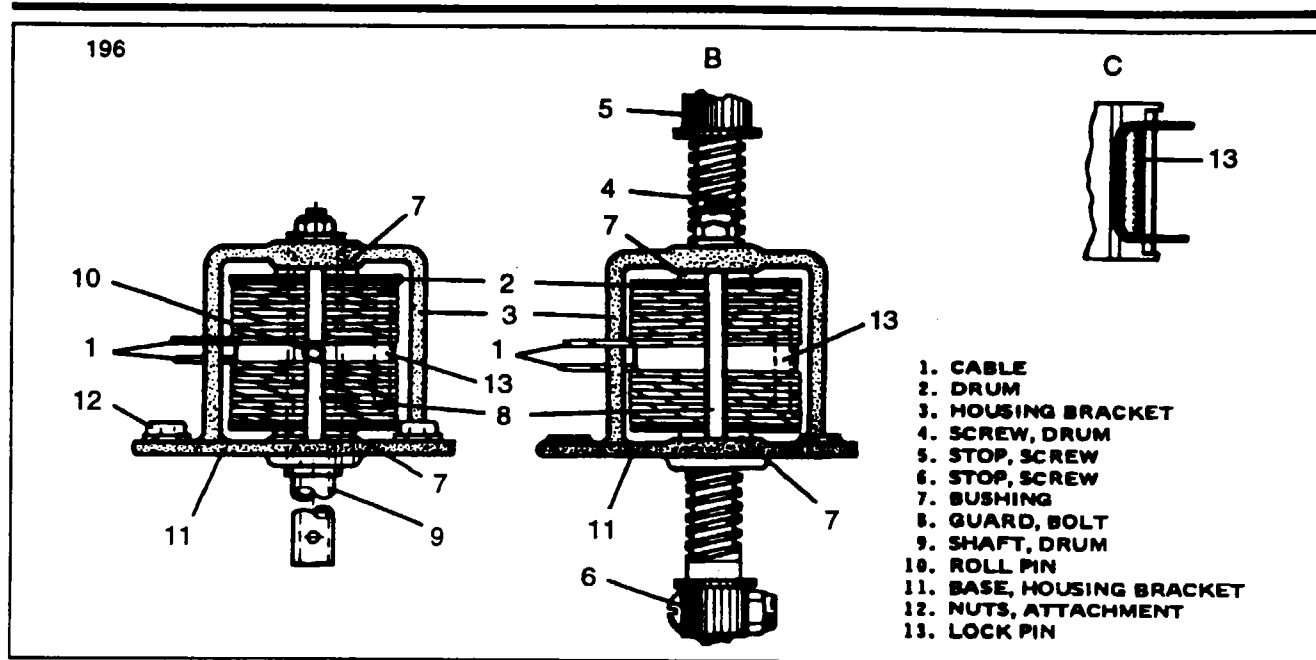

Figure 5-16. Trim Screw Assembly
5-58. WRAPPING TRIM DRUM. (Refer to Figure 5-16). All trim drums are wrapped basically in the same manner except as noted in the following procedures and must be removed from the airplane.
3. Hold the drum with its base down. Wrap the cable that leads from the base end of the drum nine and one-quarter turns in a counterclockwise direction up towards the center of the drum, Wrap the cable that leads from the upper end of the drum nine and one-quarter turns in a clockwise direction down towards the center of the drum. Insert the drum in the housing bracket, position the drum and route the cables from the assembly as shown in Figure 5-16. Install the screw and screw stop on the drum shaft and secure with the roll pin screws.
4. Hold the drum with the counterbored end down. Wrap the one cable end in a counterclockwise direction nine and one-quarter turns up towards the center of the drum. Wrap the other cable end in a clockwise direction nine and one-quarter turns down towards the center of the drum. Insert the drum in the housing bracket, position the drum and route the cables from the assembly as shown in Figure 5-16. Install the screw and screw stop on the drum shaft and secure with the roll pin screws.